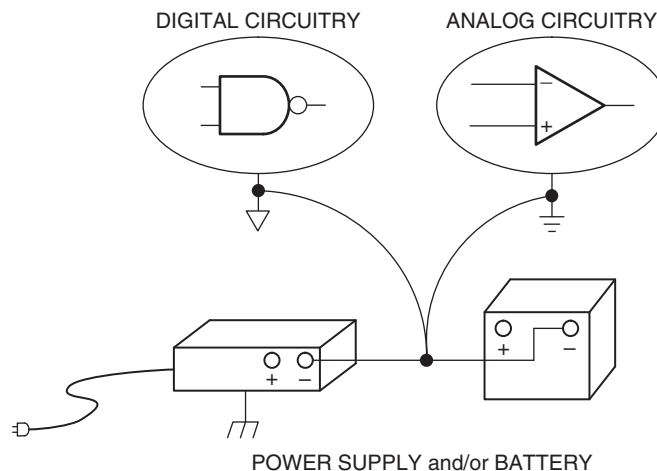

Figure 23.3: Separate grounds.
- Separate grounds* (Figure 23.3) does not mean that the grounds are electrically separate in the system. They have to be common at some point, preferably a single, low impedance point. Systemwise, there is only one ground, and it is the electrical safety ground in an AC powered system or battery ground in a DC powered system. Everything else “returns” to that ground. It would be a good idea to develop the discipline to refer to everything that is not a *ground* as a *return*. All returns should be connected together at a single point, which is the system ground. At some point, this will be the chassis. It is important to avoid ground loops by multiple connections to the chassis. Ensuring only one chassis ground point is one of the most difficult aspects of system design.